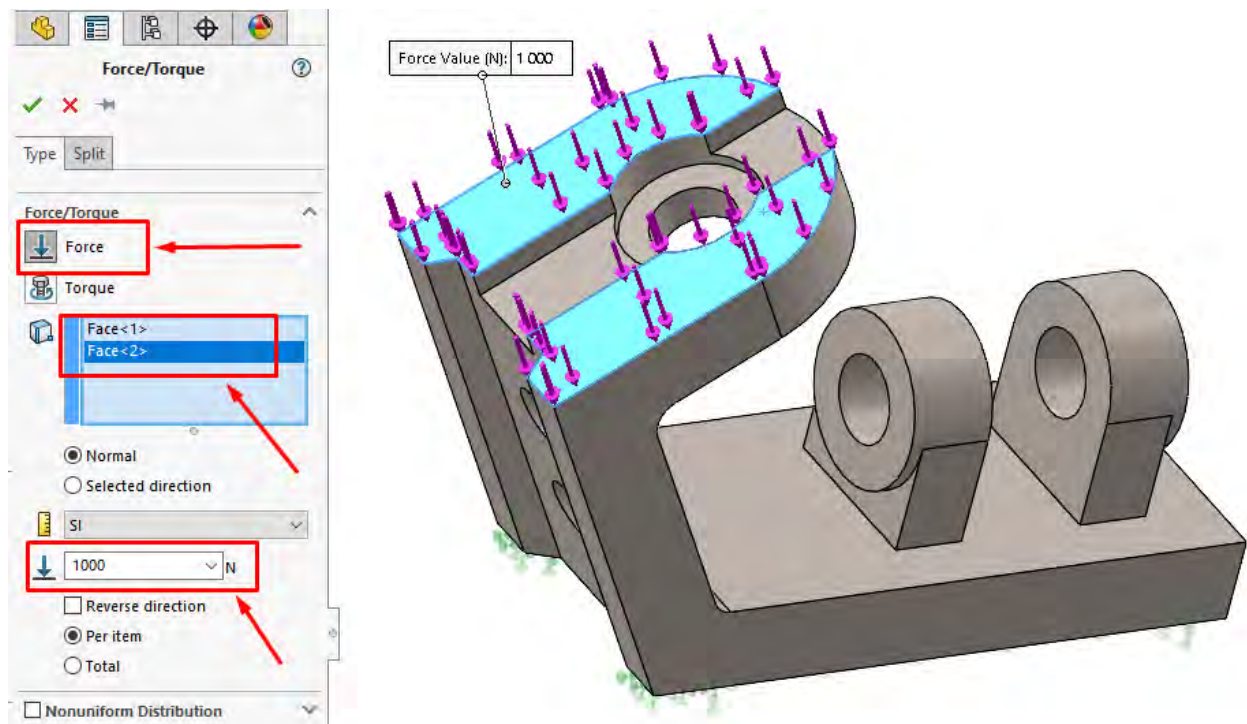

Figure 11 – Selecting a face for applying force and setting its value
- Select Force (Fig. 11).
- In the Selection section, select the faces, edges, or vertices to which the force is applied (Fig. 11).
Make sure the correct unit system is selected (SI, English, etc.) (Fig. 11).